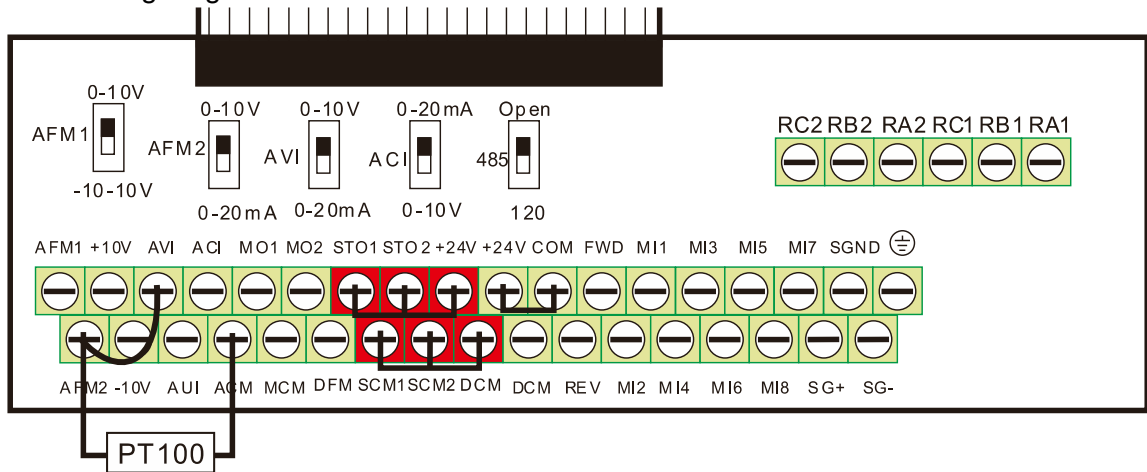

Figure 1
- Switch AFM2 to 0–20 mA on the I/O control terminal block. (Refer to Figure 1, PT100 wiring diagram)
- Wiring (Refer to Figure 1, PT100 wiring diagram):